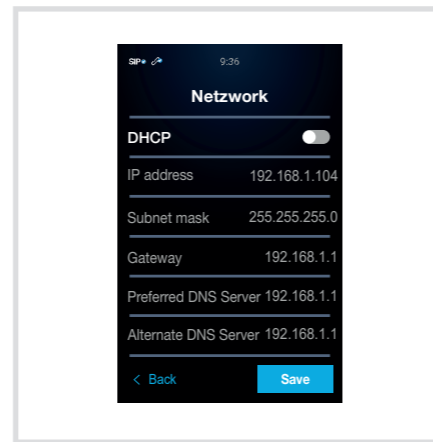

Fig. 37: Manual assignment
- For manual network settings, position **DHCP** on Off (Figure 37).